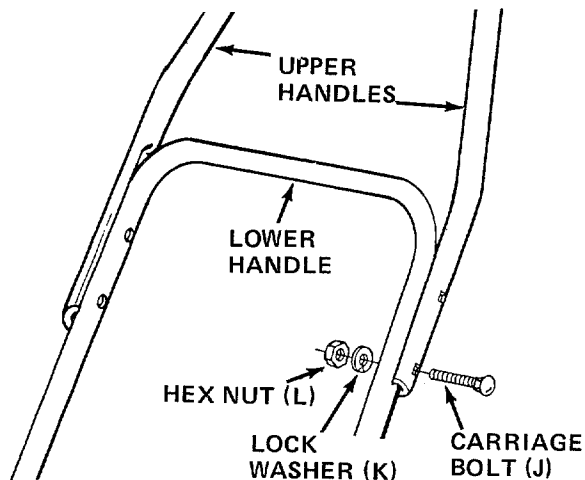

FIGURE 6
- Slip the three handle grips (T) on the upper handles and the engagement handle. They will slip on more easily if you first soak them in warm, soapy water.
- Assemble the two upper handles to the lower handle with four carriage bolts (J), lock washers (K) and hex nuts (L). Tighten only finger tight at this time. See figure 6.